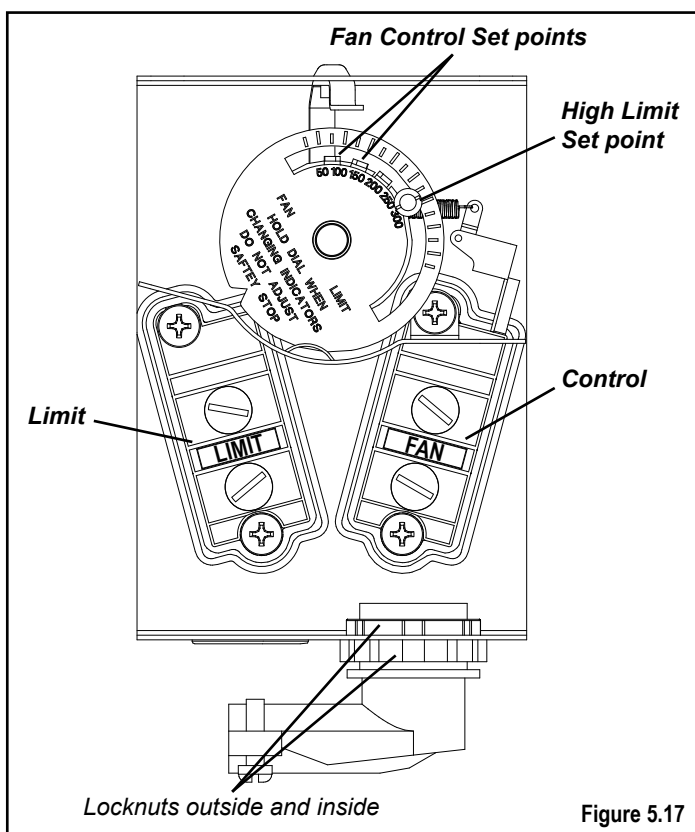

Figure 5.17
4. Pry out one of the bottom knockouts of the Fan Control. Install the 90° degree flex connector as shown in Figure 5.17. One of the locknuts stay on the outside of the box and one goes on the inside to tighten the connector into place. This allows for maximum room for the wires around the switches.
6. Connect the two VIOLET & Black wires to the FAN CONTROL switch. (It doesn't matter which wire is on which screw). Figure 5.17.
7. Connect the WHITE and SKY BLUE wires to the LIMIT switch. (It doesn't matter which wire is on which screw). Figure 5.17.
10. **FAN CONTROL** setup: Move furthest left pointer to the 120° position, then move the pointer to the right of it to the 150° position. Figure 5.17. This is a good starting point, however, the settings between the 2 pointers may need to be changed if short cycling occurs.